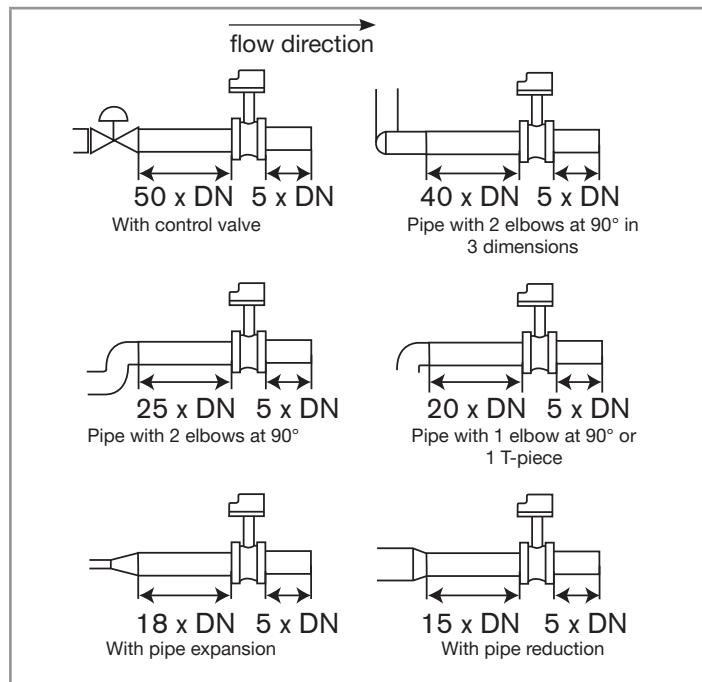

Fig. 4: Upstream and downstream distances depending on the design of the pipes
- the upstream and downstream distances are respected according to the design of the pipes, see Fig. 4 and norm EN ISO 5167-1,
- the upstream and downstream distances are respected according to the design of the pipes, see Fig. 4, page 14, and norm EN ISO 5167-1,